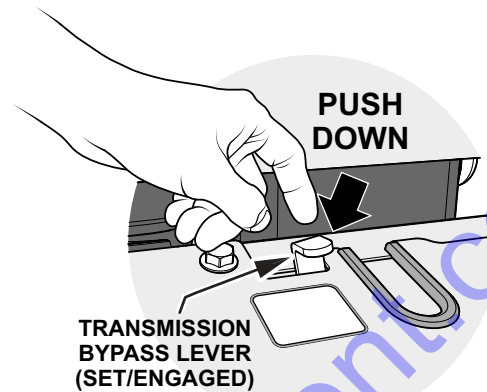

Figure 16. Transmission Bypass Lever (Engaged)
- Make sure the transmission bypass lever (Figure 16) is engaged (down position). To engage, push lever downward and move to the left.